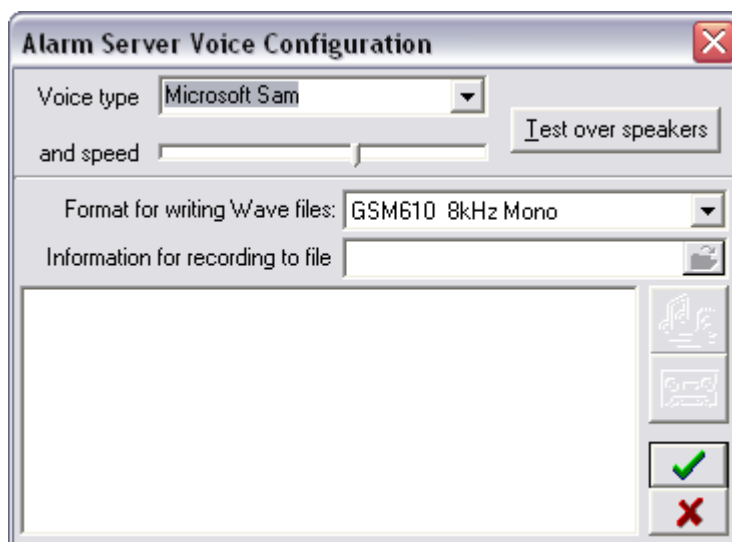

Fig 64. Alarm Server — Voice Configuration
1. In the **Alarm Server — Voice Configuration** select **Voice Type** and **Speed** (Fig 64).